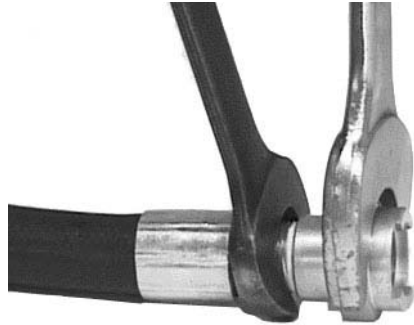

Figure 8-8. Remove Coupling Socket from Whip Hose.
4. Using a 2-inch open-end wrench to hold the Quick Disconnect Socket (19) in place, use a 1-3/8-inch open-end wrench to loosen and thread the hose fitting of Whip Hose (18) from the Socket. Refer to Figure 8-8.
5. If parts replacement is not required, leave the Quick Disconnect (Q.D.) Couplings assembled. Otherwise, separate the Socket (19) from the Plug (21).